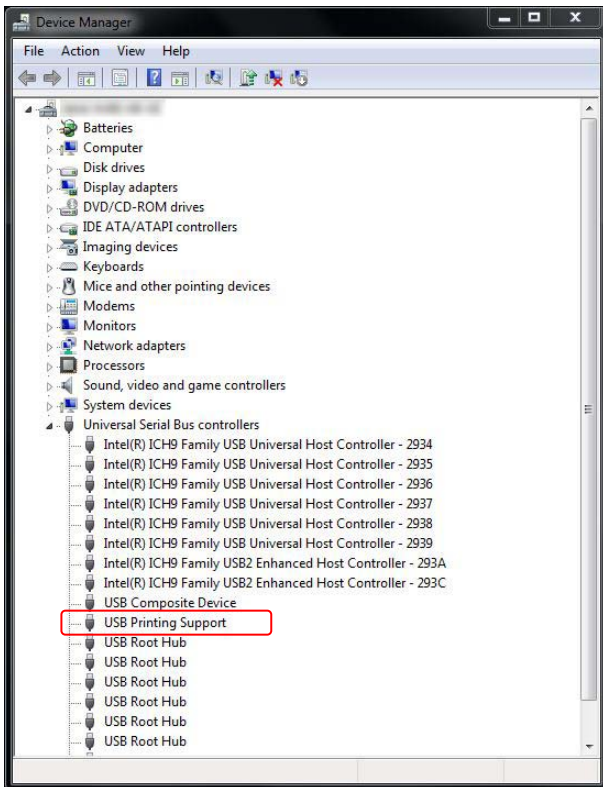

Figure 58: Device Manager
- The printer device will be shown under Universal Serial Bus controllers > USB Printing Support. See Figure 58.